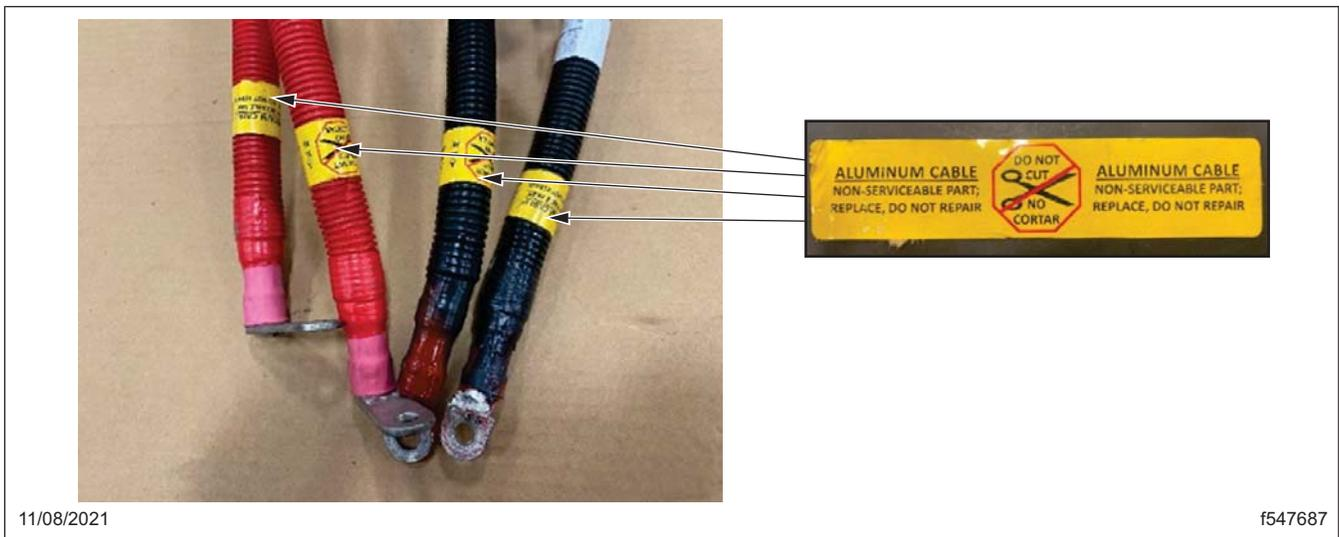

Fig. 21, Powernet Battery Cables Made of Aluminum
- The aluminum 4/0 cables are attached with a yellow label on each end indicating they are made of aluminum. See Fig. 21.